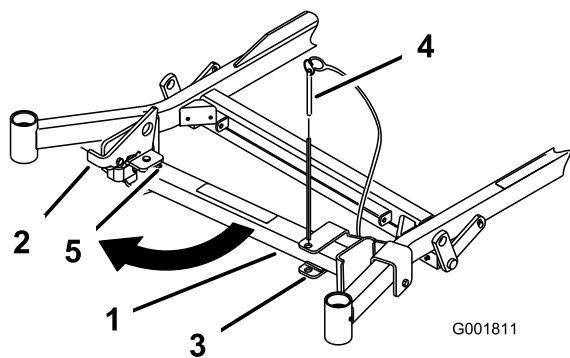
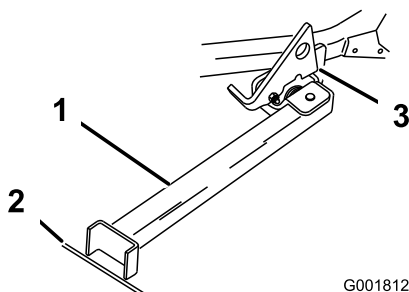

Figure 32
Figure 33
2. Remove the bracket pin (Figure 32).
3. Raise the latch. Swing the stand foot out front and slide stand toward machine, into the bottom of slot (Figure 32 and Figure 33).
6. Set the foot of stand on the ground and rest the latch on the pivot tab (Figure 33).
Note: For best results, place the foot of stand into seams in sidewalks or into the turf (Figure 33).
8. Drive onto the stand. Stop when the latch drops over the tab into the locked position (Figure 33). Once onto the stand, engage the parking brake and turn off the engine.
7. Return the stand to its rest position (Figure 32).